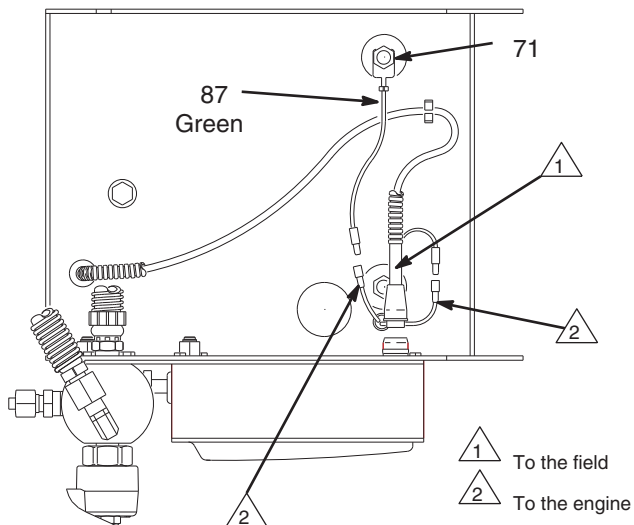

FIG. 17
2. Disconnect all necessary wiring (FIG. 17).
3. Remove two lock nuts (71) and screws (70) from base of engine (FIG. 17).
3. Connect all necessary wiring (FIG. 17).